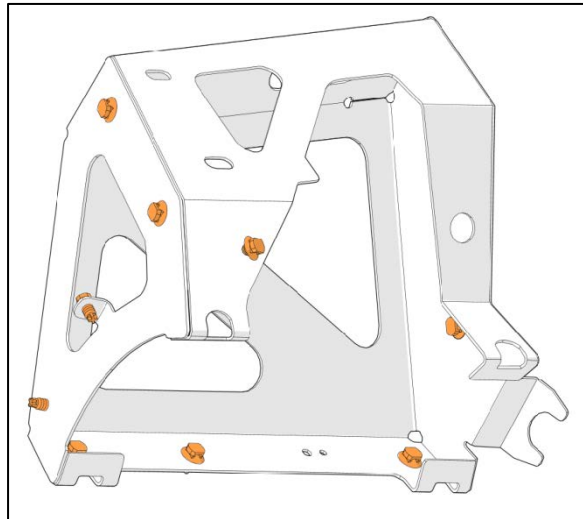

Figure 15
14. Install all new cable tie mounts # 509815 (9) on the new surge tank support as shown on Figure 15.